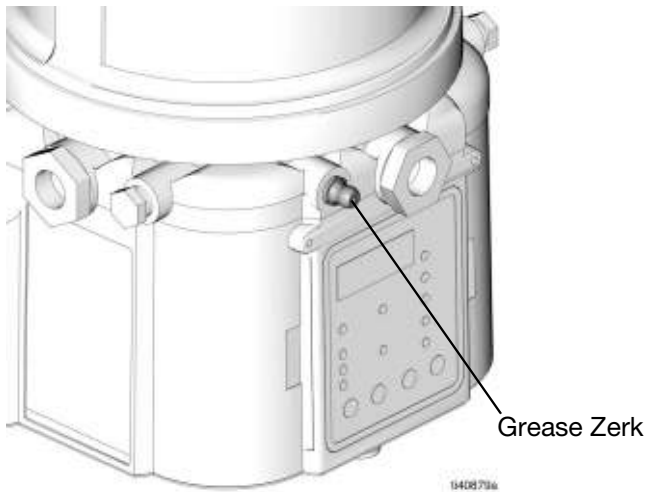

FIG. 34
- Fill the pump with grease through the grease zerk (FIG. 34).